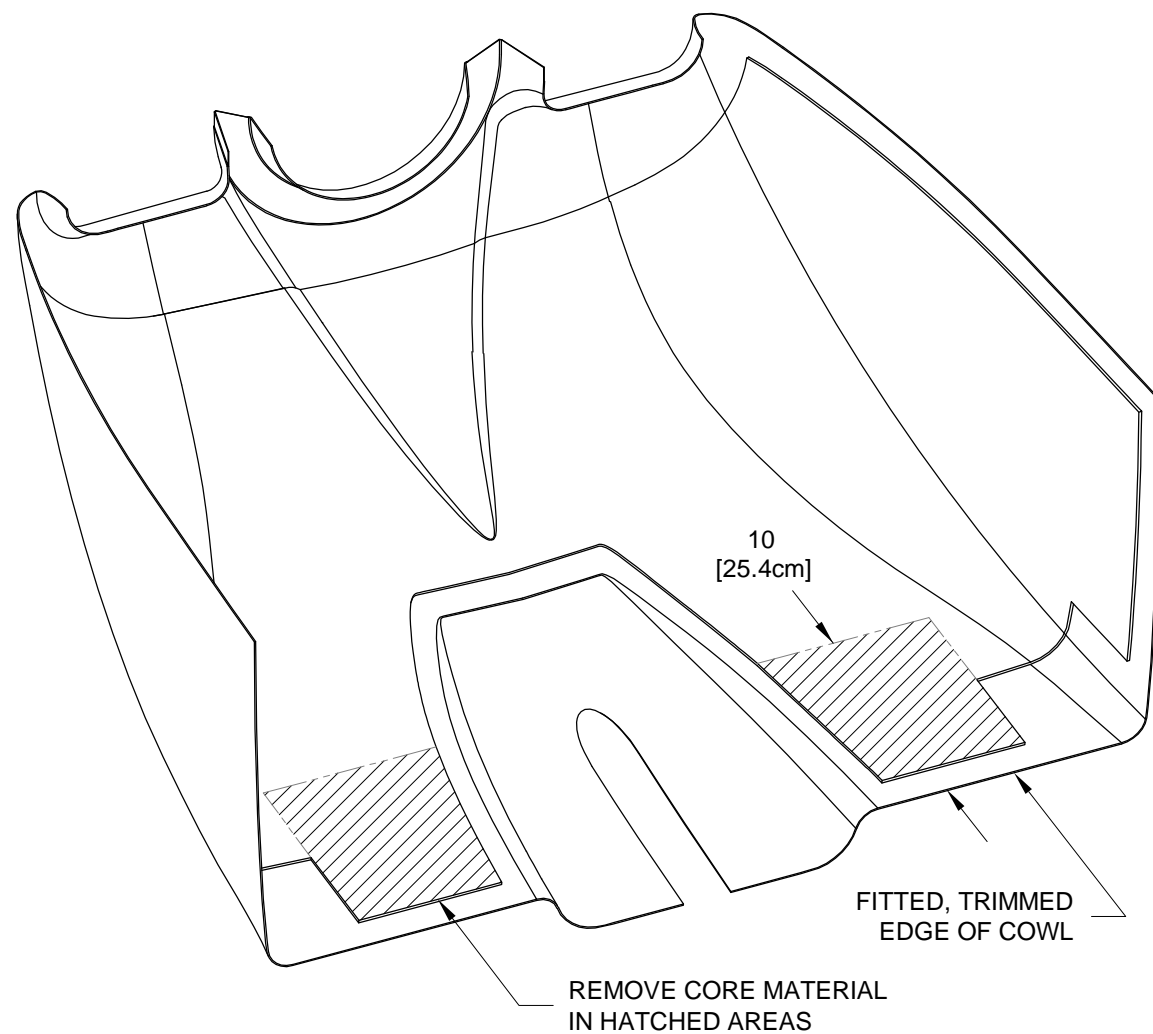

FIGURE 1: PREPARING THE COWL
NOTE: Louvers can not be installed on top of honeycomb core. For cowlings with core material in the areas shown in Figure 1, begin with Step 1 to remove the core. For cowlings that do not have the core in the areas shown in Figure 1, skip to Step 4.
Step 1: Use a sanding disk (or equivalent) to remove the core material in the areas shown in Figure 1. Taper the edges of the exposed core to roughly match the taper of the existing core edges. Verify that the FF-00101 Louvers will fit in the sanded area as shown in Figure 2; remove additional core material if/as necessary.